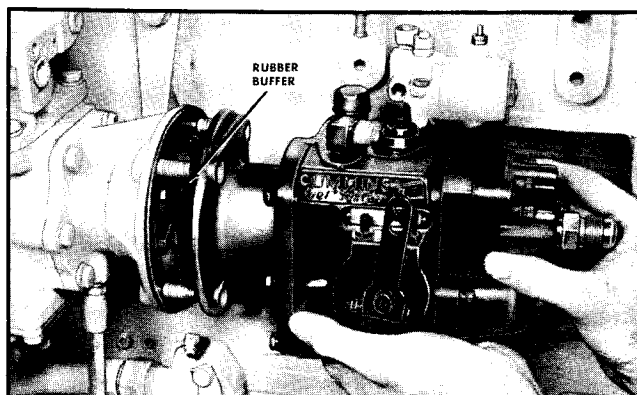

Fig. 4-14. Mounting fuel pump
1. Install fuel pump to accessory drive or to compressor with new gasket and rubber buffer in position. Place flatwashers, lockwashers, and nuts over the four studs and tighten. Fig. 4-14.